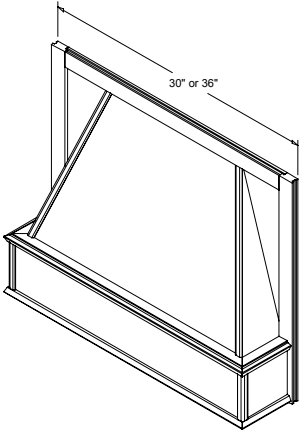

Figure 1
1. The decorative Hood Front, Figure 1